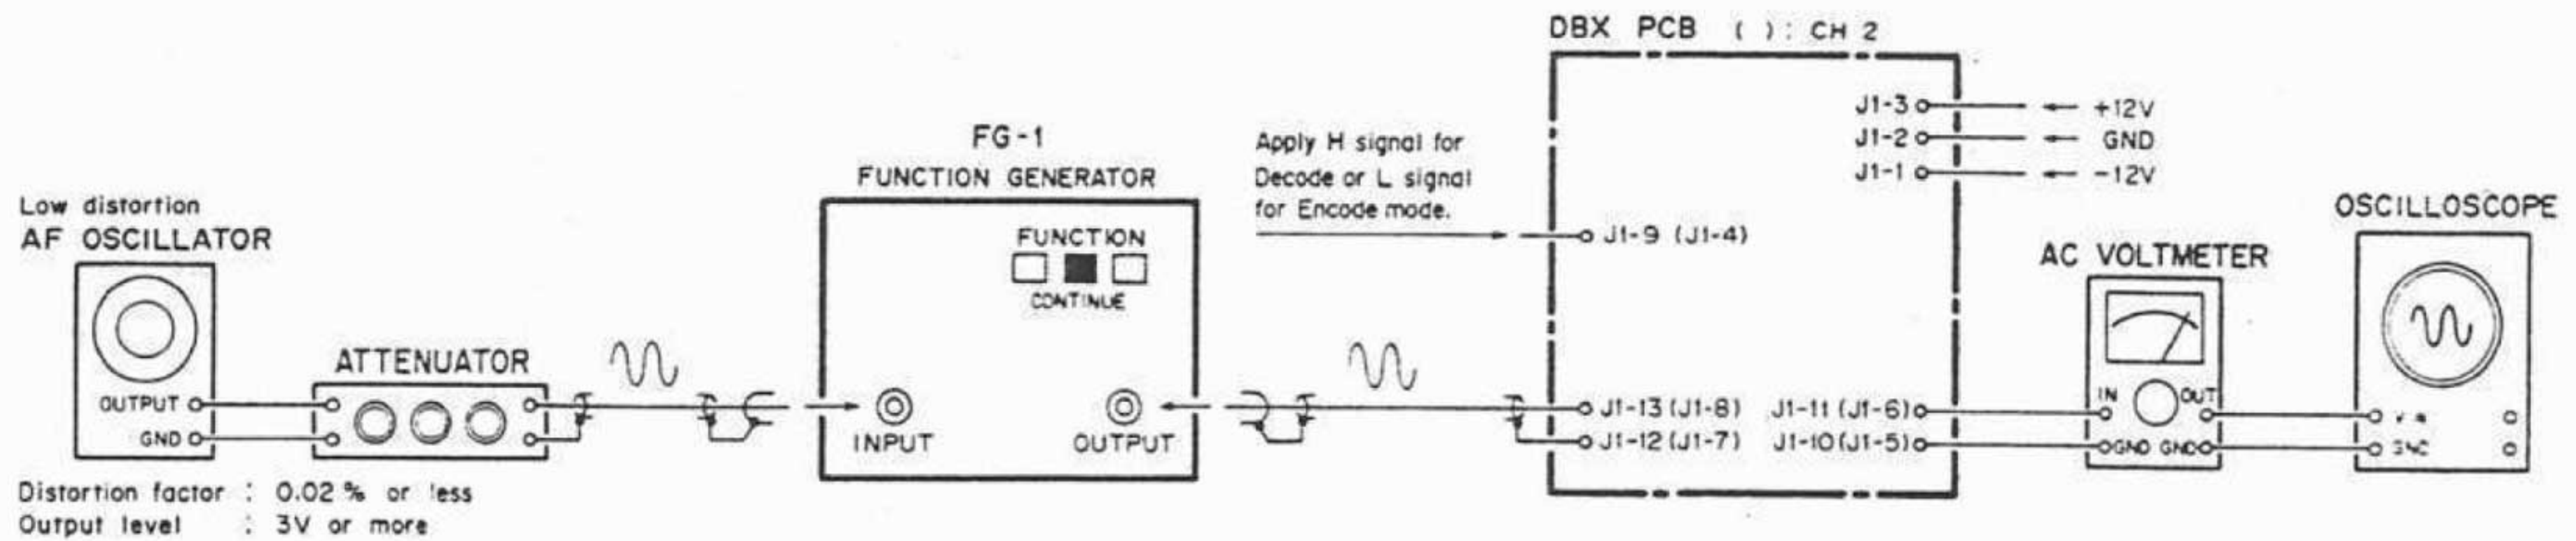

FIG. 40. RMS SYMMETRY & LEVEL ADJUSTMENTS
1. Apply +12 V to J1-3 and -12 V to J1-1 on the DBX PCB (refer to Fig. 40).
#### A. RMS Symmetry Adjustment (Connections: Fig. 40)
#### C. Decoding Level (Connections: Fig. 40)
#### D. Frequency Response (Connections: Fig. 40)
#### F. Decode Effect Check (Connections: Fig. 40)
#### C. Encoding Level (Connections: Fig. 40)
#### F. Encode Effect Check (Connections: Fig. 40)